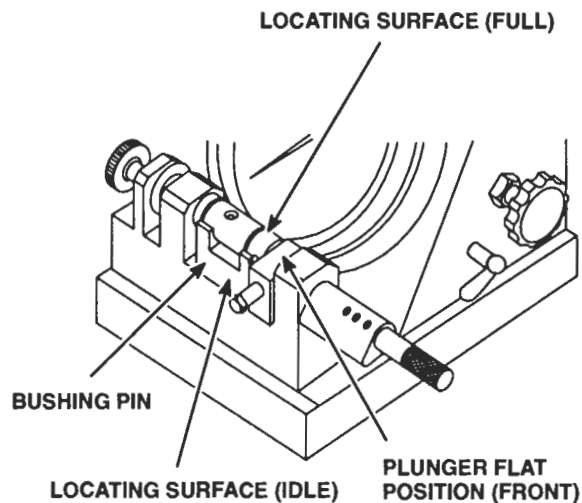

Figure 15. Cradle Mounted on Fixture
5. Place the plunger/bushing in the cradle. Be sure the plunger flat and locating pin or slot is properly positioned (Figure 15.) To check in full-fuel position, the rotate bushing until the bushing pin contacts the rear locating surface.